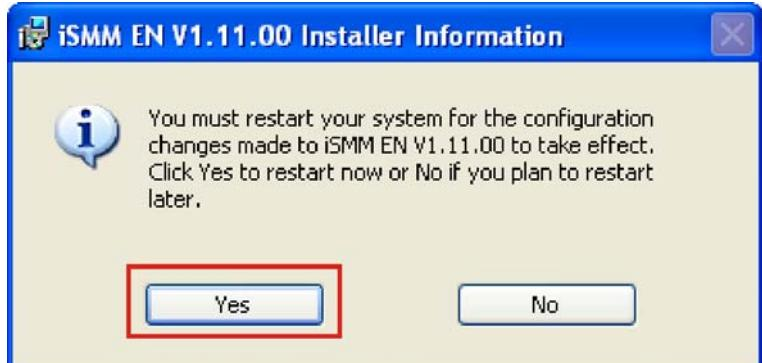

Figure 7-37: iSMM Restart Confirmation
**Step 22:** The **Restart Confirmation** screen appears.(Figure 7-37)